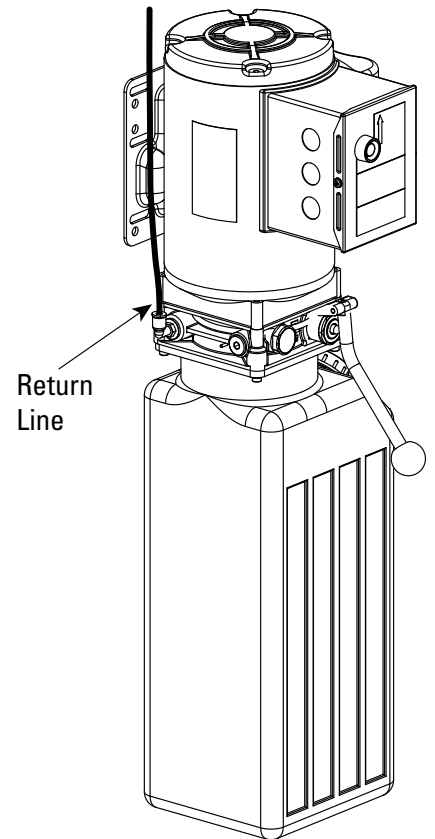

Fig. 3
3. Connect hydraulic cylinder return line to tube fitting, Fig. 3 below.